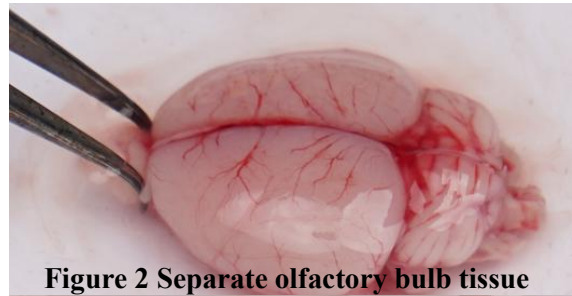

Figure 2 Separate olfactory bulb tissue
- ① Put straight micro forceps and curved micro forceps on the EP tube rack within the biosafety cabinet, ensuring their tips remain suspended.
- ② Brain tissue dissection: Tissue dissection with the new micro forceps set, fixate the brain tissue with straight micro forceps in the left hand. Separate the olfactory bulb (anterior brain) using curved micro forceps in the right hand (Figure 2). Isolate the cerebrum from the cerebellum (Figure 3). Bisect the cerebrum along the midline to separate left and right hemispheres (Figure 4).